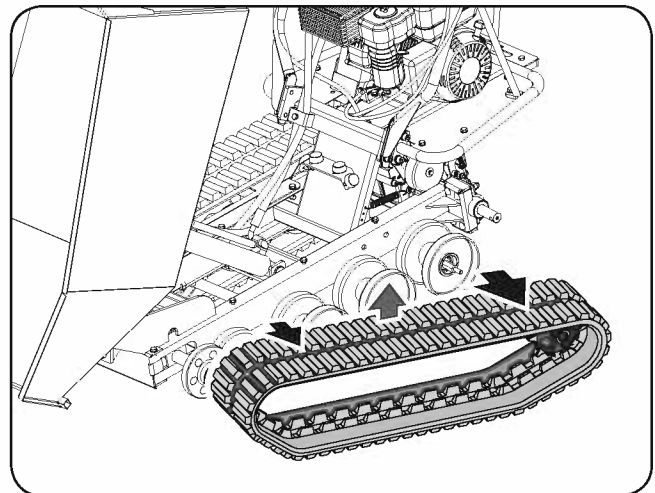

Figure 11f
- Pull out the whole track with driving wheel. (See **Figure 11f**)